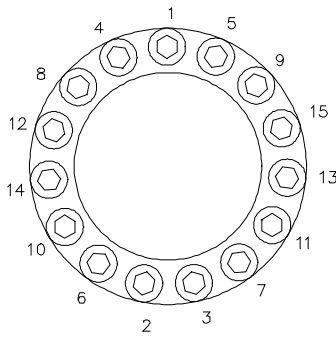

Figure 47
- Check rotor mesh clearance against Clearance Chart, refer to section 8.1. Adjustment of mesh clearance is made by rotating the shafts (5.01 and 5.02). Having achieved optimum mesh clearance, partially tighten visible screws in retainer (5.16), to clamp gear in place. Remove tool and associated studs and nuts. Fully tighten screws in retainer (5.16) to correct torque, refer to section 8.2, taking note of typical tightening sequence, see Figure 47.
- Moderately tighten visible screws in retainer (2.05) in clamped rotor to lock rotor in position. Remove tool and associated stud and nut, tighten fully screws in retainer (2.05) to correct torque, refer to section 8.2, taking note of typical tightening sequence, see Figure 47.